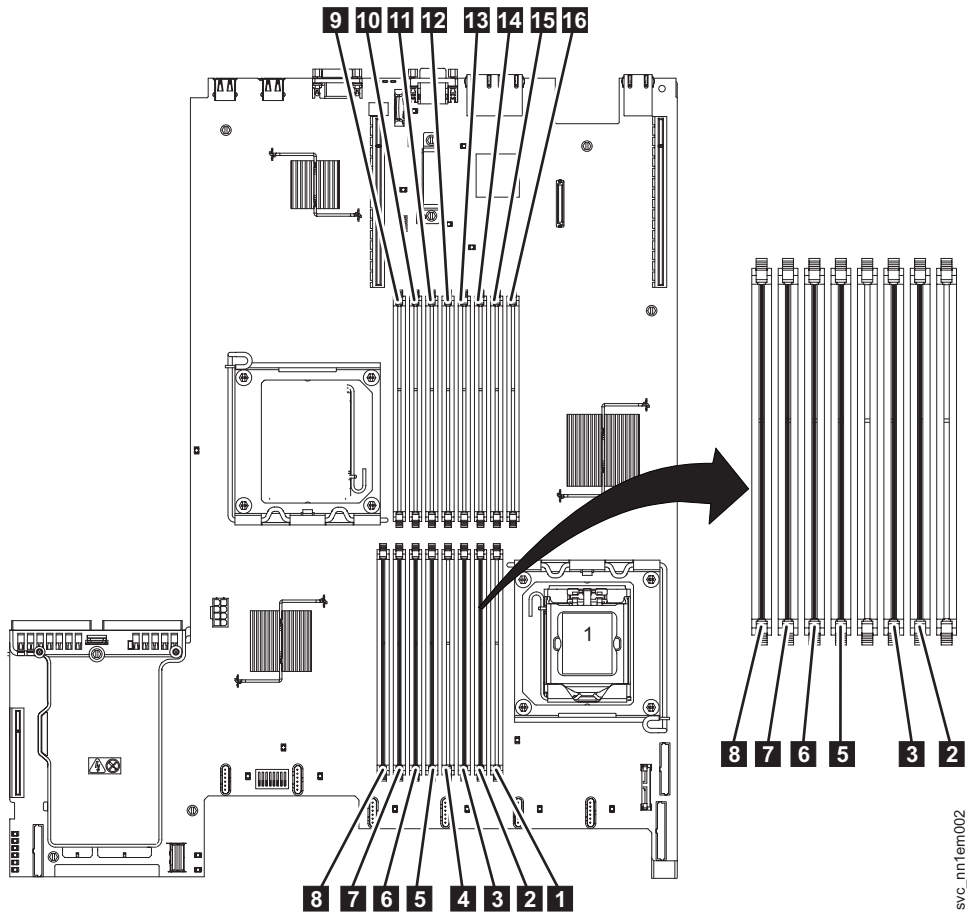

Figure 93. Locating the SAN Volume Controller 2145-CF8 memory modules
- SAN Volume Controller 2145-CF8: The SAN Volume Controller 2145-CF8 node uses six modules in DIMM slots **2**, **3**, **5**, **6**, **7**, and **8**, as shown in Figure 93 on page 106.